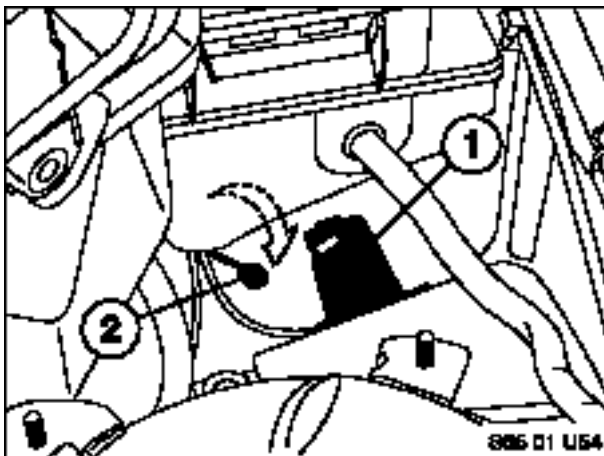

Figure 3
- 1.6 See Figure 3. Locate (may require unwrapping from harness) the 4-position alarm siren connector (2) and locate alarm siren mounting bracket (1) as shown.